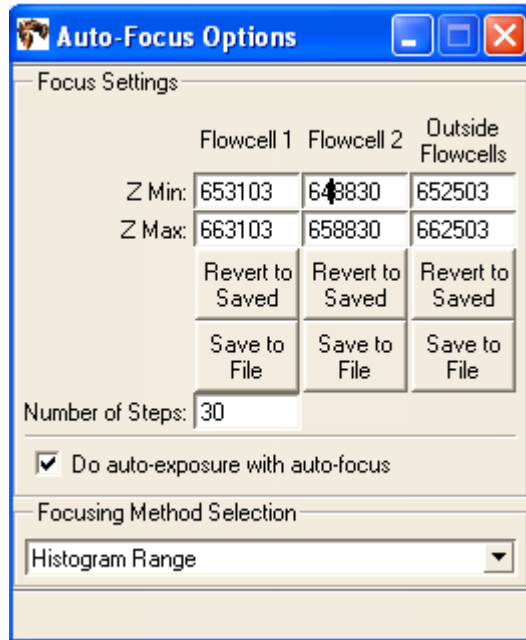

Figure 88 Enter auto-focus options.
3. Ensure that **Do auto-exposure with auto-focus** is checked. Enter a value 5000 *less than* the nominal Z distance for Z Min. Enter a value 5000 *greater than* the nominal Z distance for Z Max. Enter **30** for the Number of Steps and choose **Histogram Range** from the drop-down menu in the Focusing Method Selection pane (see Figure 88).